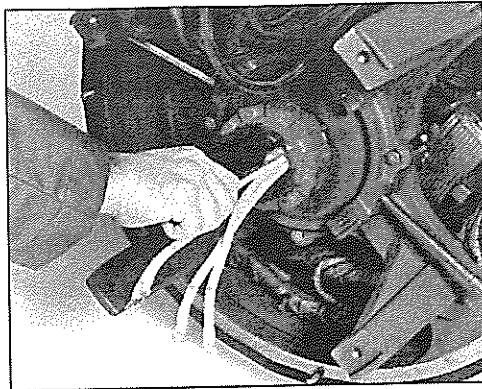
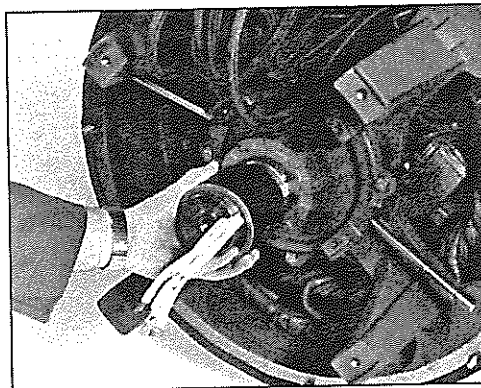

Figure 6-67
Figure 6-68
3. Install snap ring (figure 6-67). Use a piece of pipe slightly larger than the shaft (2-3/4 inches) to push the rotor back against the loading spring until the snap ring seats in the slot (figure 6-68).